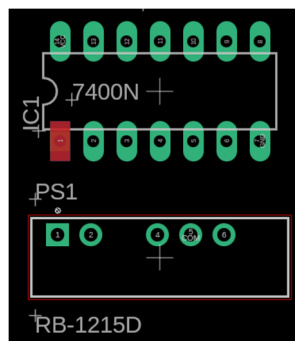

Figure 26 - Example of using SEMET.lbr with additional libraries.
- Sometimes you can find all your parts in one library, like the SEMET.lbr file. In future, you may need to add parts from additional libraries into the design. For example: Figure 26 below shows the 7400N part from SEMET.lbr as well as an unchanged footprint of RB-1215D inserted from another library.